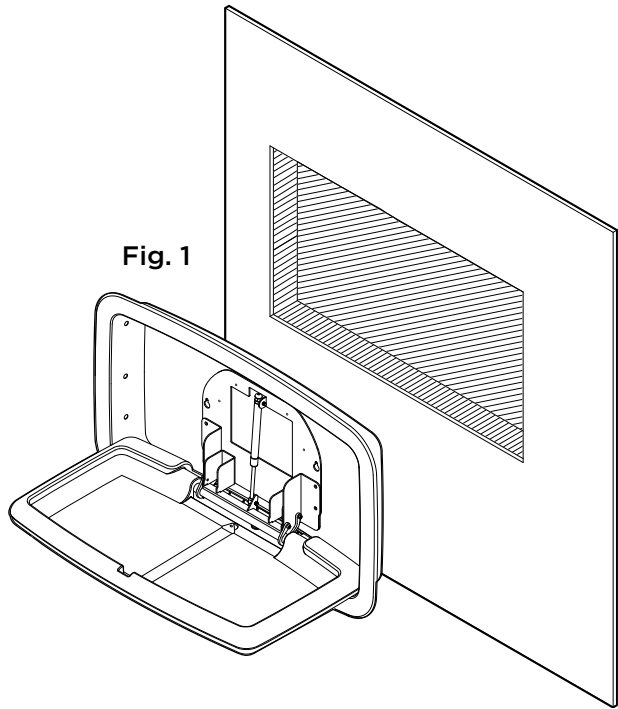

Fig. 1
- Prepare the rough wall opening per the Technical Data sheet. **Fig. 1** For more information navigate to www.koalabear.com.